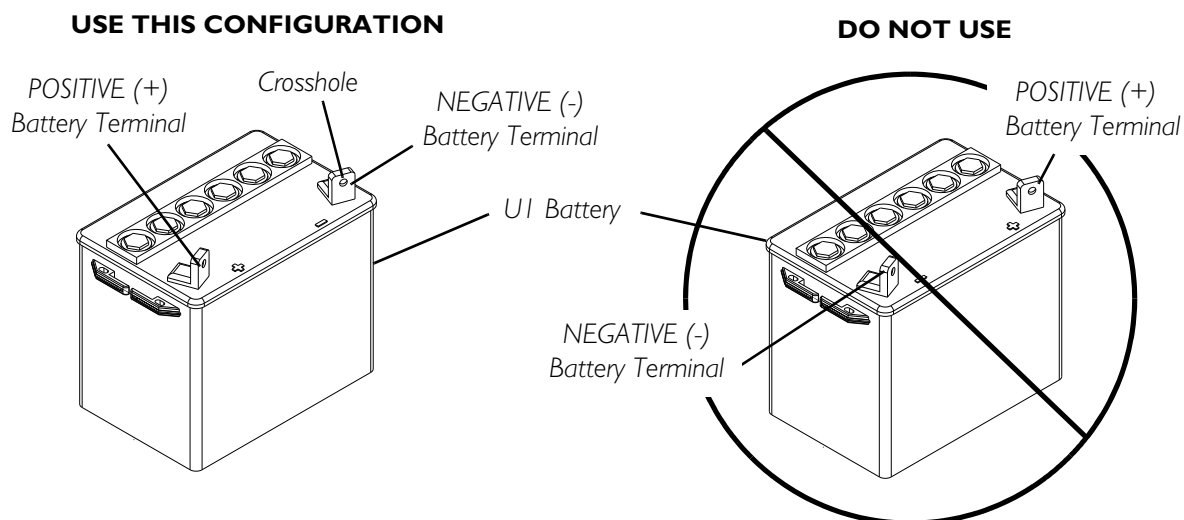

FIGURE 12.1 Using the Proper Batteries
NOTE: For this procedure, refer to FIGURE 12.1 on page 52.
2. Visually draw a horizontal and vertical centerline through the middle of battery (FIGURE 12.1).
4. Visually inspect the battery to ensure the correct position of the **POSITIVE** and **NEGATIVE** terminals (FIGURE 12.1).
Batteries with terminal configuration as shown in **FIGURE 12.1** must be used. Batteries that have the reverse terminal configuration **MUST NOT** be used - otherwise injury and damage may occur.